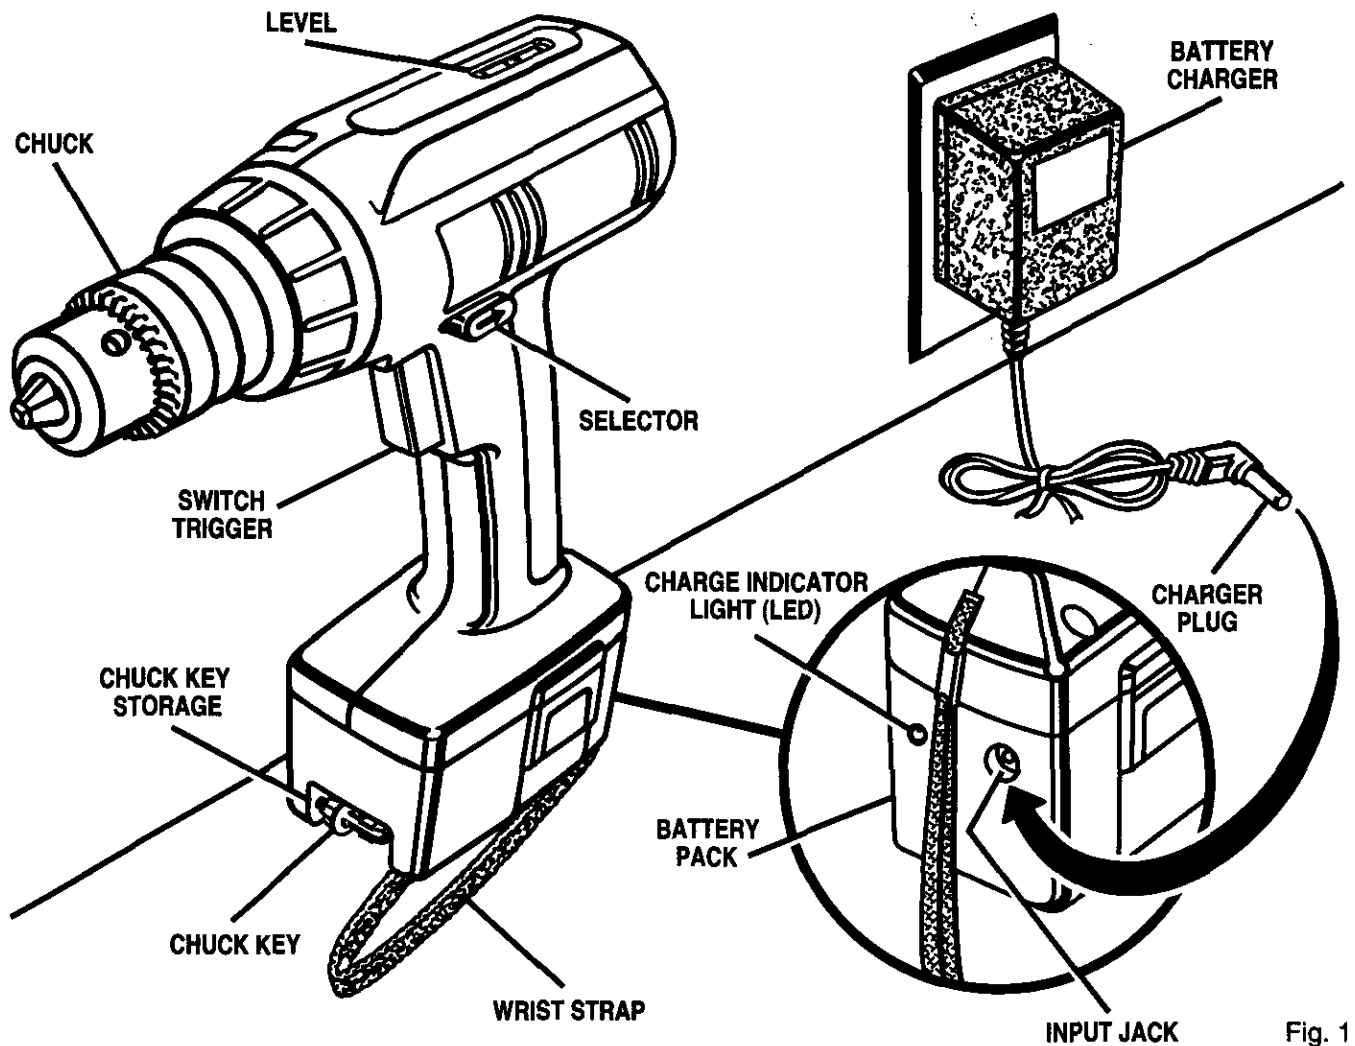

Fig. 1
See Figure 1.
- Connect charger to battery pack by inserting charger plug into input jack. As shown in figure 1, input jack is located on the back side of battery pack.